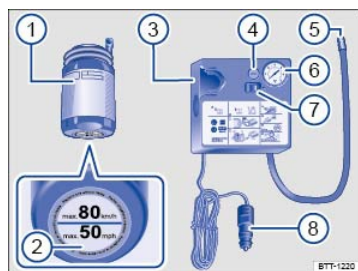

Fig. 181 Basic diagram: Contents of the tire mobility set.
The tire mobility set may be stored in one of several places in the luggage compartment (for example, in the side storage compartment or under the floor covering). contains the following ⇒ Fig. 181:
- Vigorously shake the tire inflation cylinder ⇒ Fig. 181① a few times back and forth.
- Tightly screw the inflation hose on the air compressor ⇒ Fig. 181⑤ to the valve on the top of the sealant cylinder.
- Tightly screw the filling hose from the tire inflation cylinder ⇒ Fig. 181① to the tire valve.
- Hold the cylinder with the bottom pointing up and insert the top of the cylinder into the notch in the air compressor ⇒ Fig. 181③.
- Insert the 12 Volt plug ⇒ Fig. 181⑧ into one of the vehicle's 12 Volt sockets ⇒ Power outlets.
- Switch the air compressor on using the ON/OFF switch ⇒ Fig. 181⑦.
- Let the air compressor run until a pressure of 29–36 psi (200–250 kPa) is reached ⇒ ▲. **Maximum run time 8 minutes ⇒ ①.**
Connect the inflation hose ⇒ *Fig. 181* ⑤ from the air compressor to the tire valve and read the tire pressure on the tire pressure gauge ⑥.